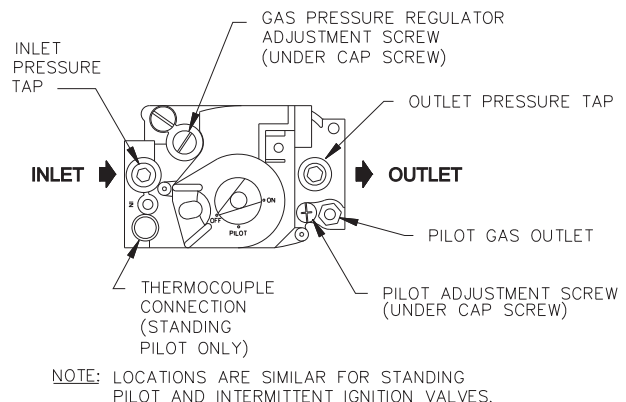

Figure 7.2: Valve Tapping and Adjustment Screw Locations
8. Connect a manometer to the gas valve inlet pressure tap. See Figure 7.2.
2. To adjust gas pressure, turn adjusting screw of gas pressure regulator counterclockwise to decrease pressure, clockwise to increase pressure. Refer to Figure 7.2 for location of gas pressure regulator. Replace the cap screw when adjustment is complete.